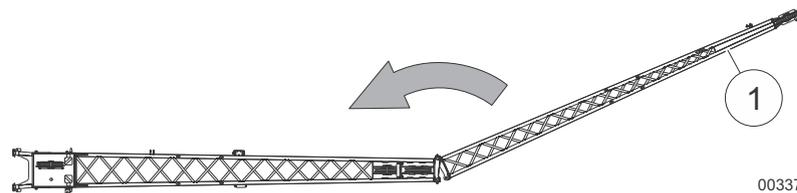

Fig. 165 Pulling the fly boom extension to the fly boom
14 Use the rope to pull the fly boom extension (1) in Fig. 165 to the fly boom.